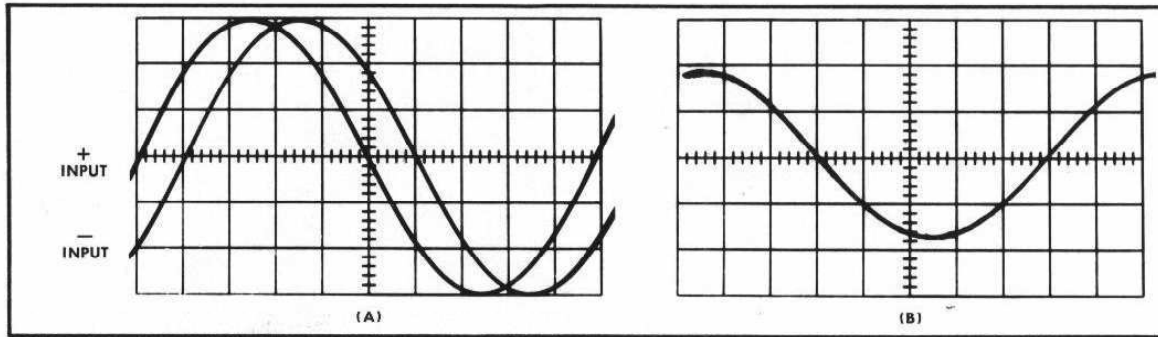

Fig. 2-2. (A) Leading signal applied to + Input and lagging signal applied to - Input. (B) The resultant output waveform display.
3. If the two signals are out of phase and of equal amplitude, the output will be the vector difference between the two signals. See Fig. 2-2.